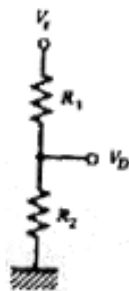

Figure Q.1 (b)
b) The divider of Figure Q. 1(b) has $R_1 = 100.0\Omega$ and $V_g = 20.00\text{ V}$. Suppose R_2 is a sensor whose resistance varies from 40.00Ω to 80.0Ω as some dynamic variable varies over a range. Then find